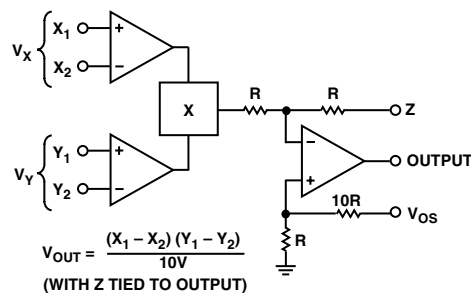
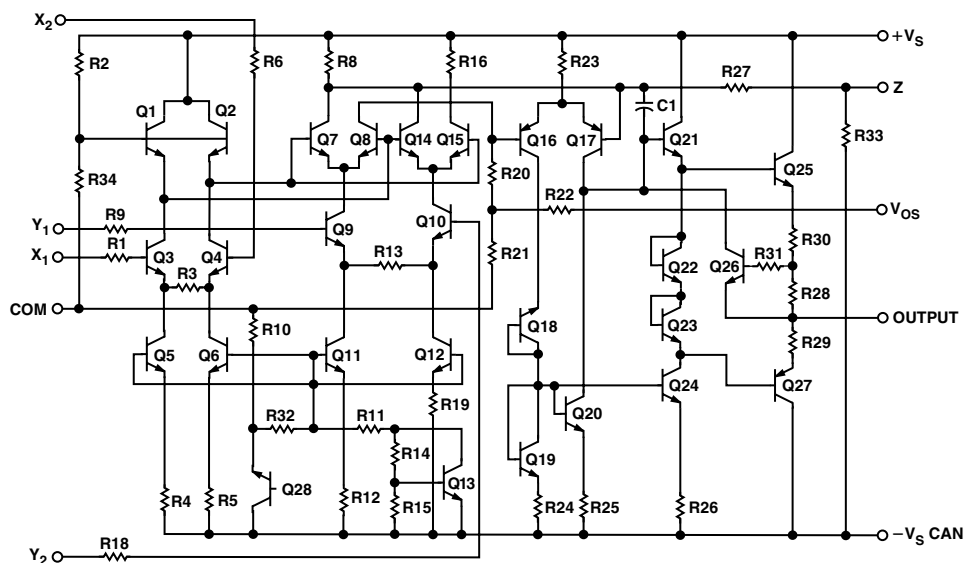
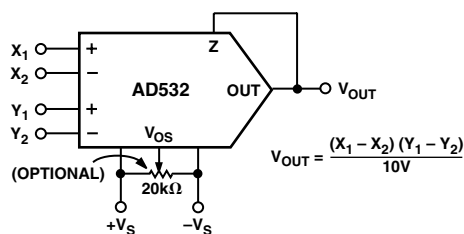

Figure 1. Functional Block Diagram
Figure 2. Schematic Diagram
Figure 11. Multiplier Connection
The functional block diagram for the AD532 is shown in Figure 1, and the complete schematic in Figure 2. In the multiplying and squaring modes, Z is connected to the output to close the feedback around the output op amp. (In the divide mode, it is used as an input terminal.)
For operation as a multiplier, the AD532 should be connected as shown in Figure 11. The inputs can be fed differentially to the X and Y inputs, or single-ended by simply grounding the unused input. Connect the inputs according to the desired polarity in the output. The Z terminal is tied to the output to close the feedback loop around the op amp (see Figure 1). The offset adjust V_{OS} is optional and is adjusted when both inputs are zero volts to obtain zero out, or to buck out other system offsets.
Figure 1 shows three views of a square flange: TOP VIEW, BOTTOM VIEW, and a side cross-section view. The TOP VIEW shows a square flange with a central square hole (SQ) and a maximum square size (MAX SQ) of 0.358 (9.09). The BOTTOM VIEW shows the flange with a central square hole (SQ) and a maximum square size (MAX SQ) of 0.358 (9.09). The side cross-section view shows the flange with a thickness of 0.100 (2.54) and a maximum square size (MAX SQ) of 0.358 (9.09). The drawings include various dimensions and tolerances in both inches and millimeters.